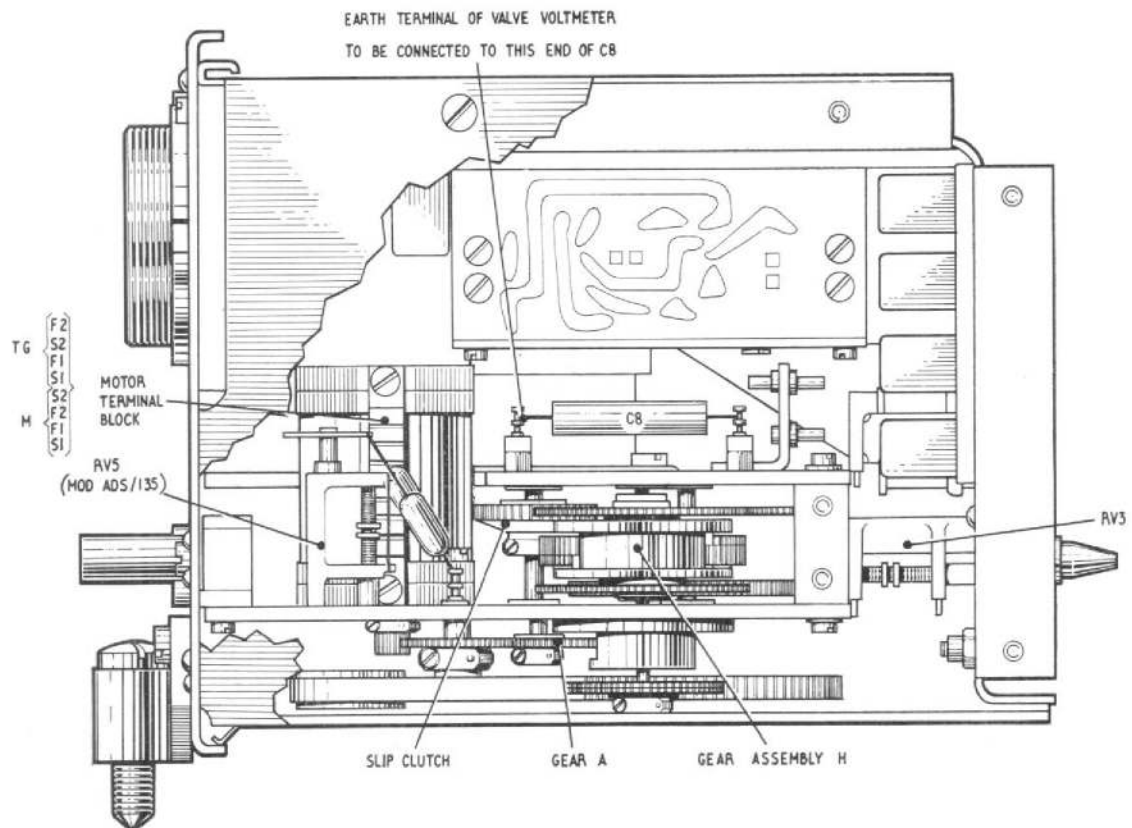
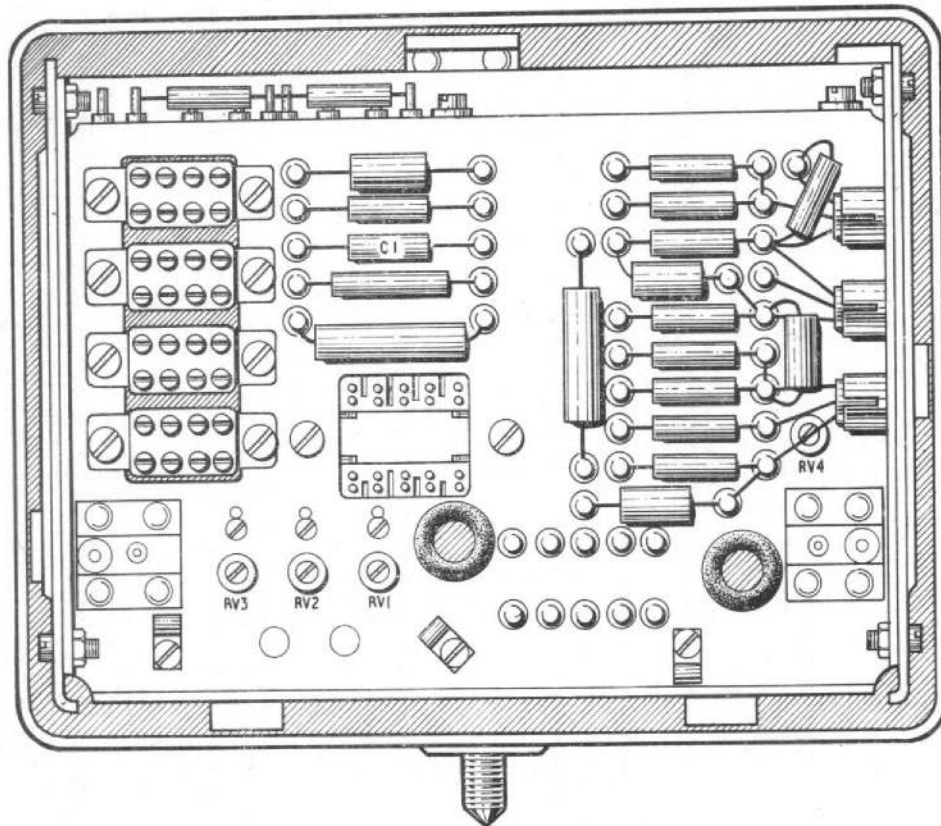

Fig. 2. Side view of transducer
Fig. 3. Rear view of transducer
(6) Set switch S2 to ON and ensure that the variac output is 50V. Set switch S3 to ON.
(7) Rotate gear A (fig. 2) through not more than one revolution in either direction against the servo action. A current of at least 4 mA on the multimeter should be produced. If the correct reading is obtained proceed to sub-para. (9). If not, check the capsule output, as measured across C1 (fig. 3), for one revolution of gear A. This must be at least 5mV r.m.s. If correct, check the supplies to the transistor amplifier in accordance with Table 1, and the 7.5V-0-7.5V supplies from T1.
(8) If all the power supplies are satisfactory, measure the resistances of the diodes MR1 to MR4, with the multimeter set to the  $\pm 100$  range. The resistances should be 15 to 25 ohms in one direction and 125 to 175 ohms in the other direction. If the supplies and the diode resistances are correct, a transistor amplifier fault exists.
(9) If the correct reading was obtained in the test described in sub-para. (7), connect the valve voltmeter, set to the 100V range,
across capacitor C8 (fig. 2). Ensure that the valve voltmeter earth terminal is connected as shown on fig. 2.
- (1) Remove cover (App. 4).
- (2) Turn the transducer onto its side and insert a gramme gauge into one of the holes in gear A (fig. 2).
- (3) Measure the force required to slip the clutch whilst holding gear assembly H (fig. 2) to prevent the gear from moving. The force required should be between 50 and 150 gm.
- (4) Insert the gramme gauge into one of the holes in gear A and measure the force required to move the gear train ensuring that the slip clutch does not slip. The force required should not exceed 8 gm.
- (5) If tests were correct carry out S.S.T. (App. 1). If incorrect reject transducer.
- (2) Connect the transducer to the test set as detailed in App. 1, with the static connection open to atmosphere.
- (3) Switch on the 115V 400 c/s 3-phase supply to the P.S.U. and set switch S2 to ON. Adjust the variac to give an output of 50V and set S3 to ON.
- (4) Set switch S1 to ON and check that relay RLW/1 operates removing the 50V 400 c/s supply to the motor as measured at S2 (violet lead) and F2 (dark blue lead) on the motor tagboard (fig. 2).
- (5) Set S1 to OFF and check that the 50V supply is now present at the motor. Set S3 to OFF and check that RLJA/1 operates removing the 50V supply to the motor.
- (2) Turn the transducer onto its side and connect to the test set as detailed in App. 1, with the static connection open to atmosphere.
- (3) Switch on the 115V, 400 c/s, 3-phase supply to the P.S.U. and set switch S2 to ON. Adjust the variac to give an output of 50V.
- (4) Set switches S3 and S1 to ON and allow 15 min. warm up period.
- (5) Position RV2 (fig. 3) and RV5 (fig. 2) to approximately their mid position.
- (6) Turn RV1 (fig. 3) fully counter-clockwise for maximum gain of buffer amplifier.
*The maximum gain of the buffer amplifier is approximately 100. A check on the gain may be made by measuring the input to the amplifier across capacitor C1 (fig. 3) using the valve voltmeter.*
- (7) Set the valve voltmeter to 1V range and tune for minimum capsule unit output by alternately adjusting RV4 (fig. 3) and turning the servo by hand on gear A (fig. 2). The final null should not be greater than 0.25V r.m.s.
- (8) Connect the multimeter, set to the 2.5V d.c. range, across the DC and E terminals of the test set. Observe the multimeter reading and adjust RV2 until the reading on the multimeter is a minimum. The null on the valve voltmeter should not be greater than 0.25V r.m.s.
- (9) Set S1 and S3 to OFF. Switch off the the power supplies.
- (10) Set the sylphon bellows to its mid-range position.
- (11) Set the aneroid barometer to the ambient pressure.
- (12) Interconnect the transducer, sylphon bellows and aneroid barometer as shown in App. 1.
- (13) Switch on the power supplies and set S3 to ON. Allow transducer three min. to warm up and set S1 to ON. The reading on the valve voltmeter should be the same as that obtained in sub-para. (8).
*If adjustment of RV5 was necessary, re-adjust RV4 as in sub-para. (7) to obtain the minimum output, and RV2 as in sub-para. (8) to obtain a minimum output as measured at the DC and E terminals.*
(15) Set S1 to OFF and adjust RV3 (fig. 3) so that when gear A is displaced approximately five turns in either direction against the servo action and released, the servo makes one overshoot and one undershoot only before becoming stationary.
(16) Set S3 to OFF and switch off power supplies to the P.S.U.